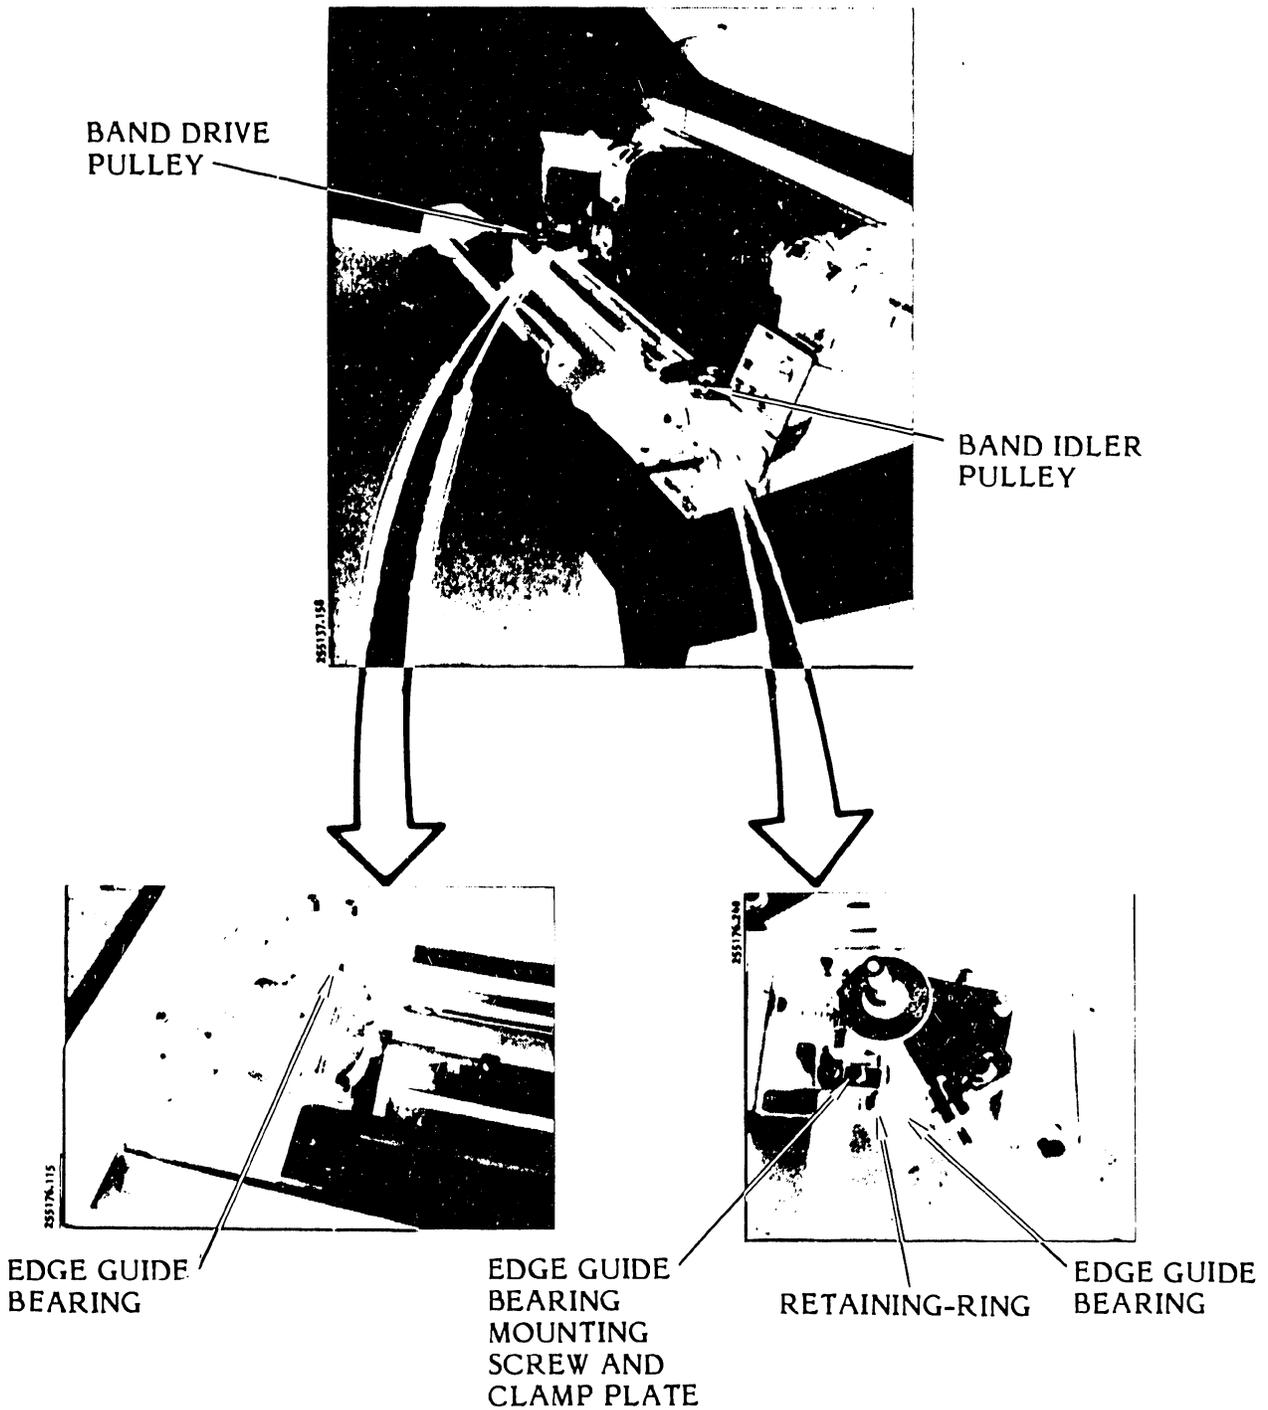

Figure 3-87. Edge Guide Bearing (Posidrive Band Motor) Removal/Installation
- 1. Use a No. 2 retaining ring pliers to remove the retaining ring (see figure 3-87).
- 2. Use the No. 2 retaining ring pliers to snap the new retaining ring on the shaft to hold the bearing in place (see figure 3-87).